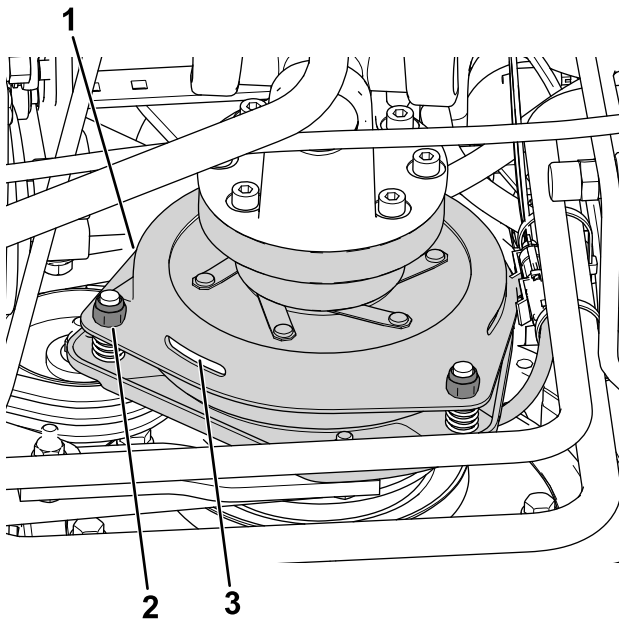

Figure 76
3. Adjust the air gap so that a 0.3 mm (0.012 inch) feeler gauge slides in between the clutch lining and friction plate with light pressure (Figure 76).
Note: You can decrease the gap by turning the adjusting nuts clockwise (Figure 76). The maximum service gap is 0.6 mm (0.024 inch). Adjust all 3 air gaps to 0.4 mm (0.012 inches).